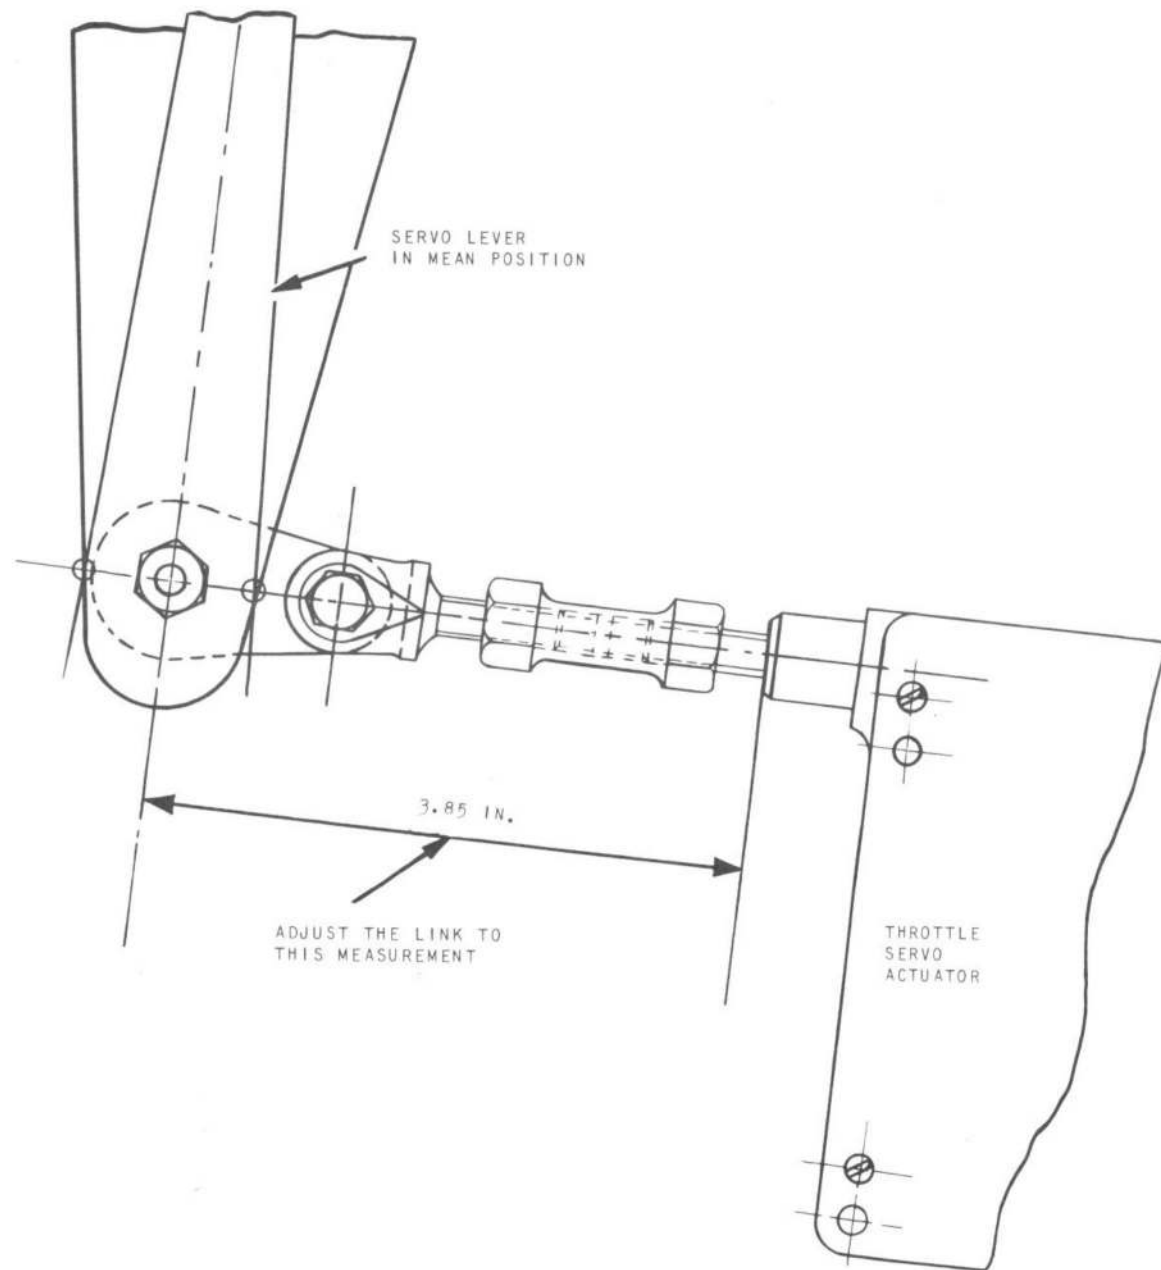

Fig. 3. Throttle servo actuator adjustment
36. Removal of the actuator and the consequent breaking down of the mechanical linkage to the throttle servo lever and clutch unit, is achieved through access panel 14P. On replacing the actuator it is essential to have the servo lever in the mean position and the linkage adjusted to the measurement given in fig.3.